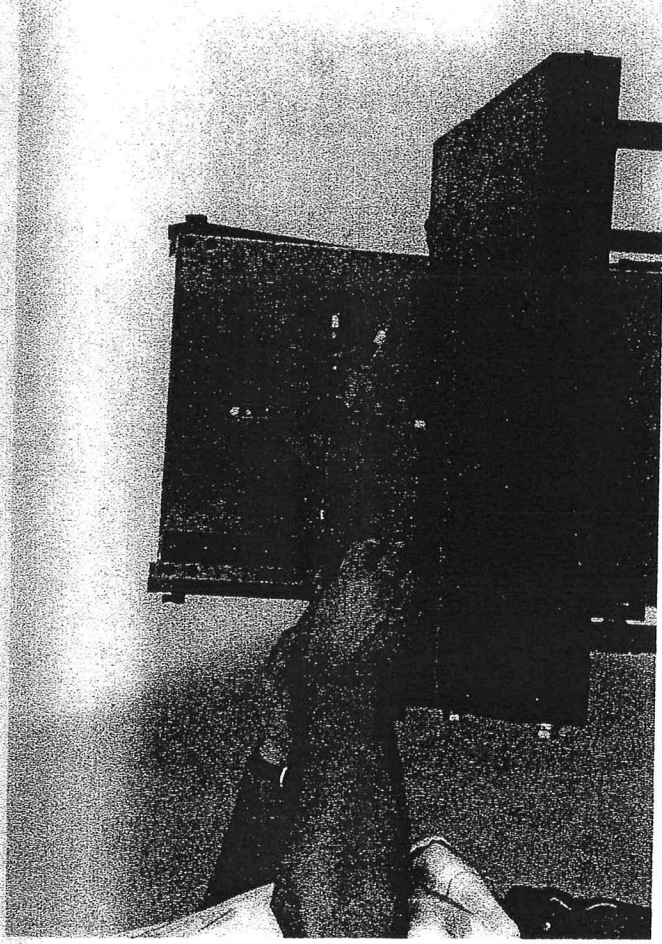

Fig. 29
4. Lower table 1 1/2 turns. Cut into the end of workpiece A to 1/2 the diameter of the bit. (fig. 29)